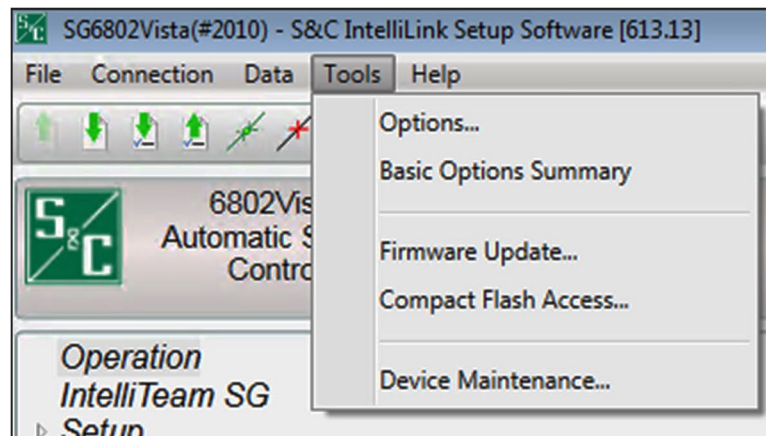

Figure 31. The Tools>Firmware Update Menu option.
STEP 12. Enter the Admin password when prompted to enter credentials. The default password can be obtained by contacting the Global Support and Monitoring Center at (888) 762-1100. If the default password has been changed, enter the user-configured password.
STEP 13. In the **Tools** menu on the menu bar, click on the **Firmware Update** menu item. See Figure 31.